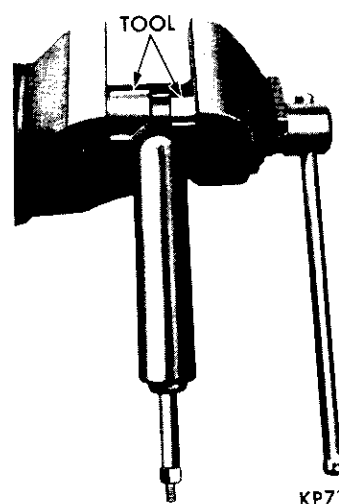

Fig. 2—Removing or Installing Shock Absorber Bushing
(3) Compress shock absorber by pushing upward and remove from vehicle by pulling down and out of upper shock absorber mounting bushing.
(4) Check appearance of upper shock absorber mounting bushing and if it appears worn, damaged, or deteriorated, remove bushing by first pressing out inner sleeve with a suitable tool then prying out or cutting out the rubber bushing. (This bushing will take some set after it has been in service and should be replaced once it has been removed.)
(5) If lower bushing requires replacement, remove it from shock absorber using Tool C-3553 by pressing on the outer sleeve of bushing (Fig. 2).
(1) To install upper rubber bushing, remove inner steel sleeve and immerse bushing in water (DO NOT use oil or soap) and with a twisting motion, start bushing into hole of upper mounting bracket, then tap into position with a hammer. Reinstall steel inner sleeve in bushing.
(2) Install lower mounting bushing in eye of shock absorber using Tool C-3553 (Fig. 2).
(3) Test and expel air from shock absorber, then, compress to its shortest length. Position washer on upper rod of shock absorber and insert rod through upper bushing and install upper compression washer and nut and tighten to 25 foot-pounds.
(4) Position and align lower eye of shock absorber with that of lower control arm mounting holes. Install bolt and nut and tighten to 50 foot-pounds with the full weight of vehicle on the wheels.